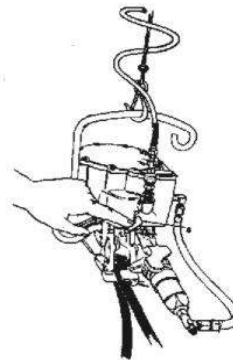

图5 (Fig5)
4.如想中途停机,应按下阀芯B(如图5所示),捆扎机便自行恢复原始状态。
If it is necessary to shut off the tool for a while during the tensioning portion of the cycle, push down the pawl pin B as indicated in Fig. 5, the tool can resume the previous state automatically.